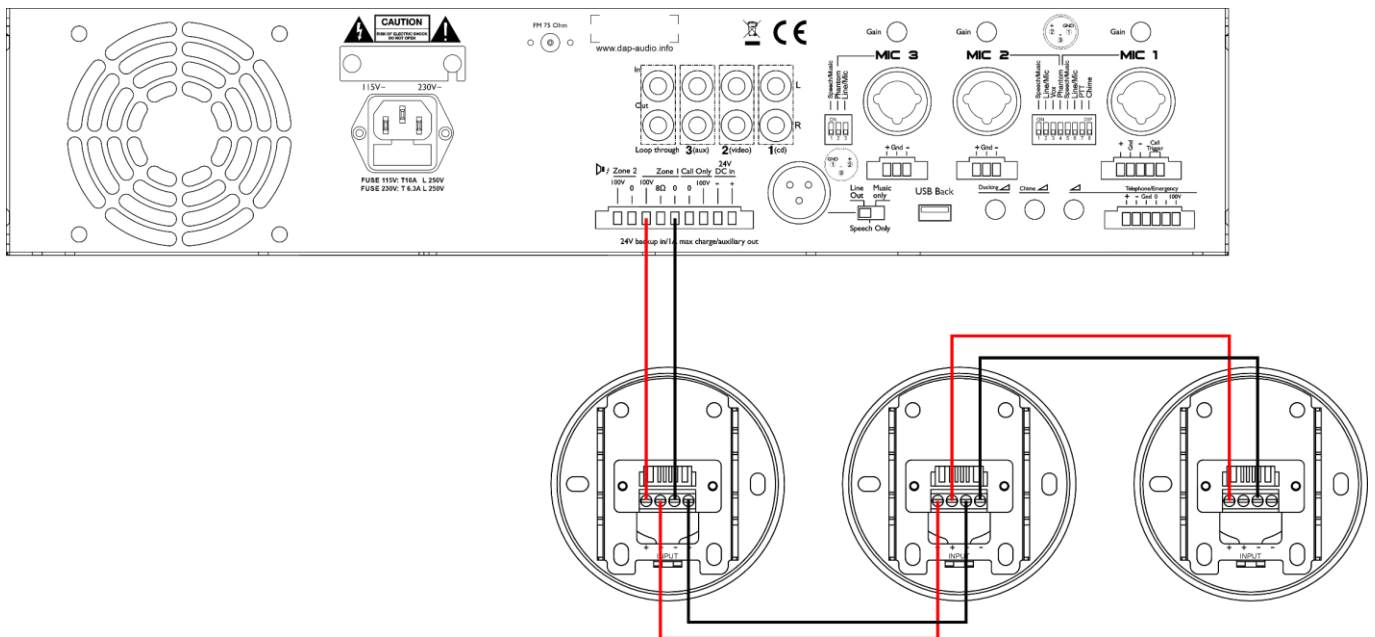

Fig. 12
- 01) Connect the COM output of the 70/100 V amplifier to one of the (-) connectors on the **mounting plate (07)**.
- 02) Connect the line transformer tap (70 V or 100 V) of the 70/100 V amplifier to one of the (+) connectors on the **mounting plate (07)**.
- 03) Connect multiple speakers as shown in Fig. 12.